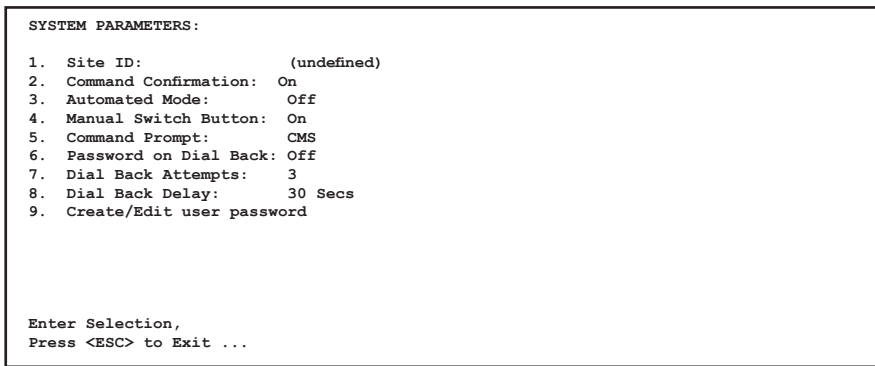
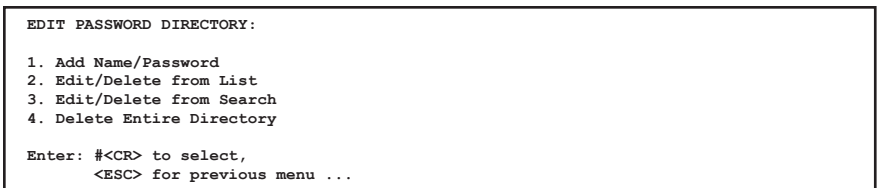
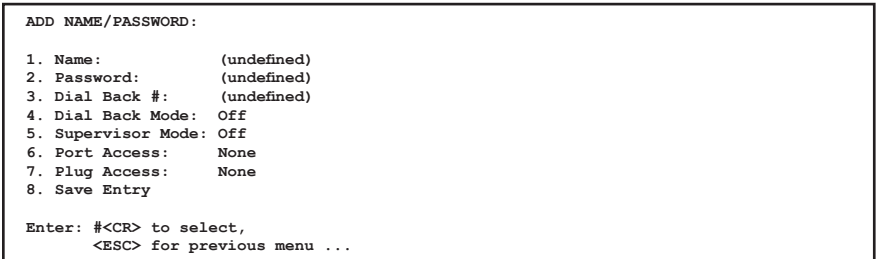

Figure 5.4: System Parameters Menu - Text Interface
Figure 5.6: The Password Directory Menu (Text Interface)
Figure 5.8: The Add Name/Password Menu (Text Interface)
- **Text Interface:** Type **/F** and press [Enter]. The System Parameters Menu will be displayed as shown in Figure 5.4.
- **Text Interface:** First, type /F and press [Enter] to access the System Parameters Menu (Figure 5.4.) At the System Parameters Menu, type 9 and press [Enter] to display the Password Directory Menu (Figure 5.6.)
- **Text Interface:** First, type **/F** and press **[Enter]** to access the System Parameters Menu (Figure 5.4.) At the System Parameters Menu, type **9** and press **[Enter]** to display the Password Directory Menu (Figure 5.6), then type **1** and press **[Enter]** to access the Add Name/Password menu as shown in Figure 5.8.
- **Text Interface:** First, type **/F** and press **[Enter]** to access the System Parameters Menu (Figure 5.4.) At the System Parameters Menu, type **9** and press **[Enter]** to display the Password Directory Menu (Figure 5.6.) At the Password Directory Menu, either type **2** and press **[Enter]** to select the password from a list, or type **3** and press **[Enter]** to select the password using the search function.
- **Text Interface:** First, type /**F** and press **[Enter]** to access the System Parameters Menu (Figure 5.4.) At the System Parameters Menu, type **9** and press **[Enter]** to display the Password Directory Menu (Figure 5.6.) At the Password Directory Menu, either type **2** and press **[Enter]** to select the password from a list, or type **3** and press **[Enter]** to select the password via the search function. When the account information is displayed, type **9** and press **[Enter]** to delete the selected account.
- **Text Interface:** First, type /**F** and press **[Enter]** to access the System Parameters Menu (Figure 5.4.) At the System Parameters Menu, type **9** and press **[Enter]** to display the Password Directory Menu (Figure 5.6.) At the Password Directory Menu, type **4** and press **[Enter]** to delete all currently defined user accounts.